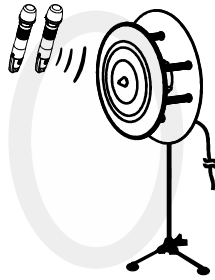

Fig. 4: Correct.
2. Screw on the Fixed Screw Nut tightly and loosen the Fixed Knob, adjust antenna's directional angles for proper positions and then revolve the Fixed Knob tightly for best performance result, Fig. 4, 5.